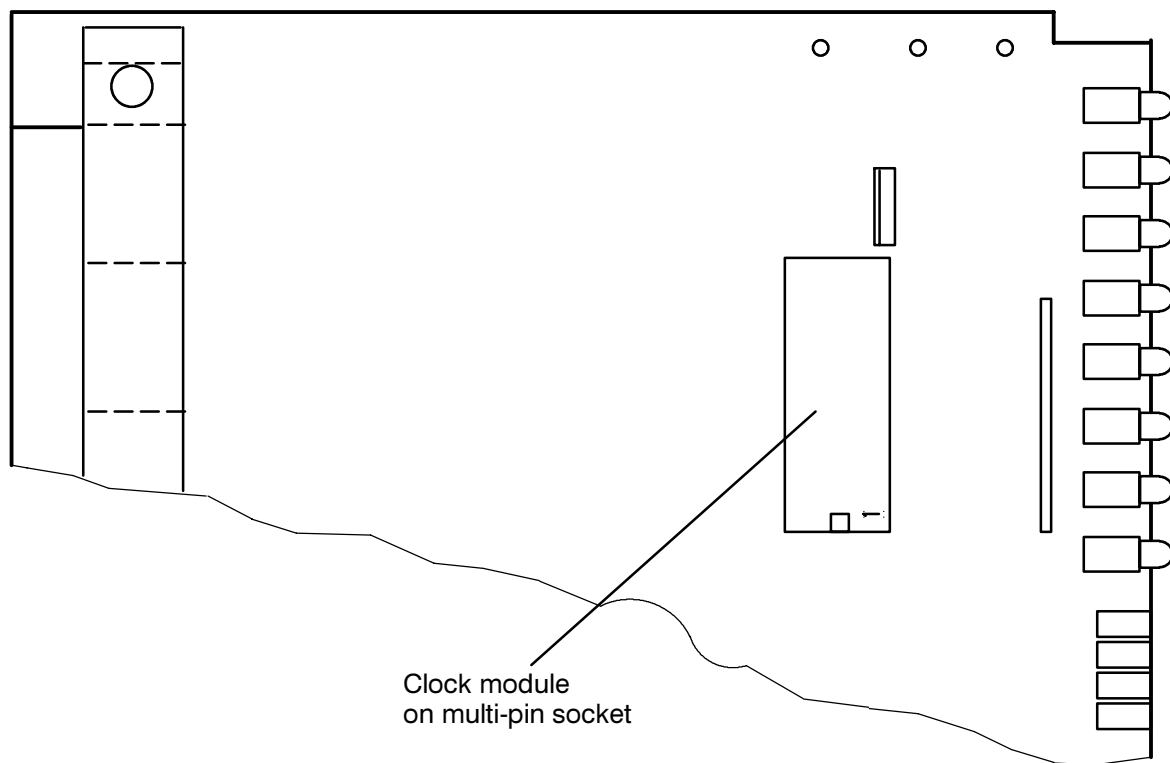

Figure 7.1 Position of the clock module
- Pull out used clock module from the socket according to Figure 7.1; **do not place on the conductive surface!**